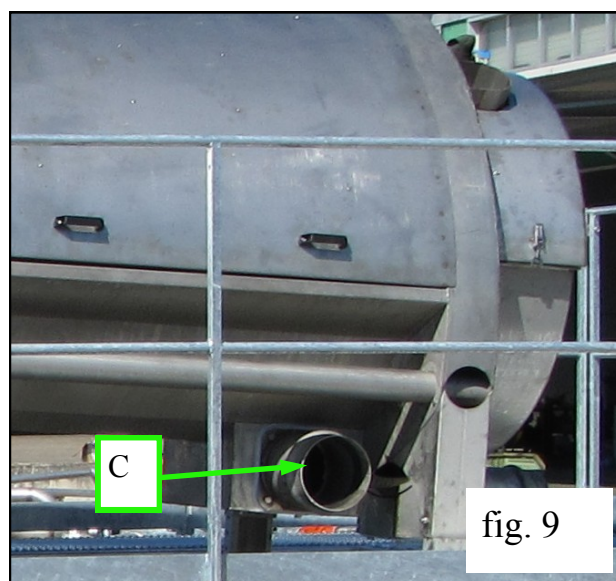

fig. 9
- 6) The *liquid discharge pipe* (diameter 150) is found in the bottom part of the machine in point **C** **fig. 9**